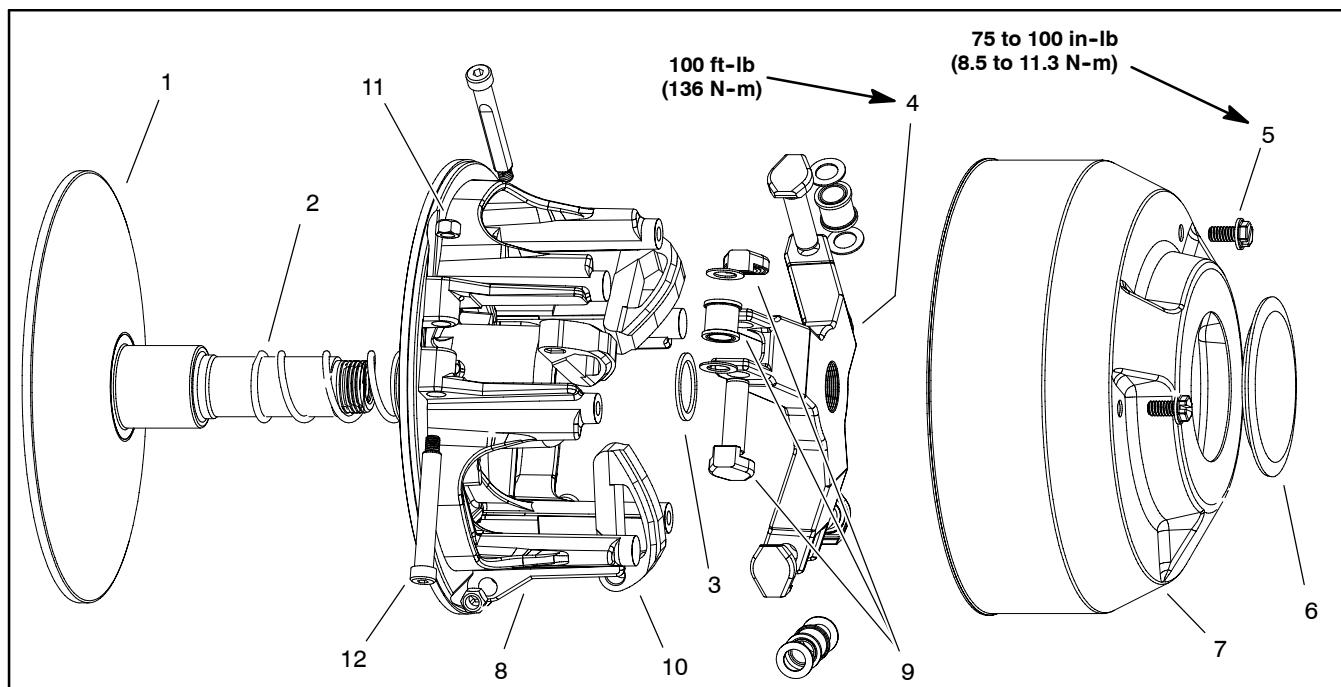

Figure 14
2. Remove the three (3) cap screws that secure the cover to the drive clutch (Fig. 14). Remove the cover from the clutch.
Drive Clutch Disassembly (Fig. 14)
6. As needed, remove cam weights from moveable sheave and roller kits from spider using Figure 14 as a guide.
Drive Clutch Assembly (Fig. 14)